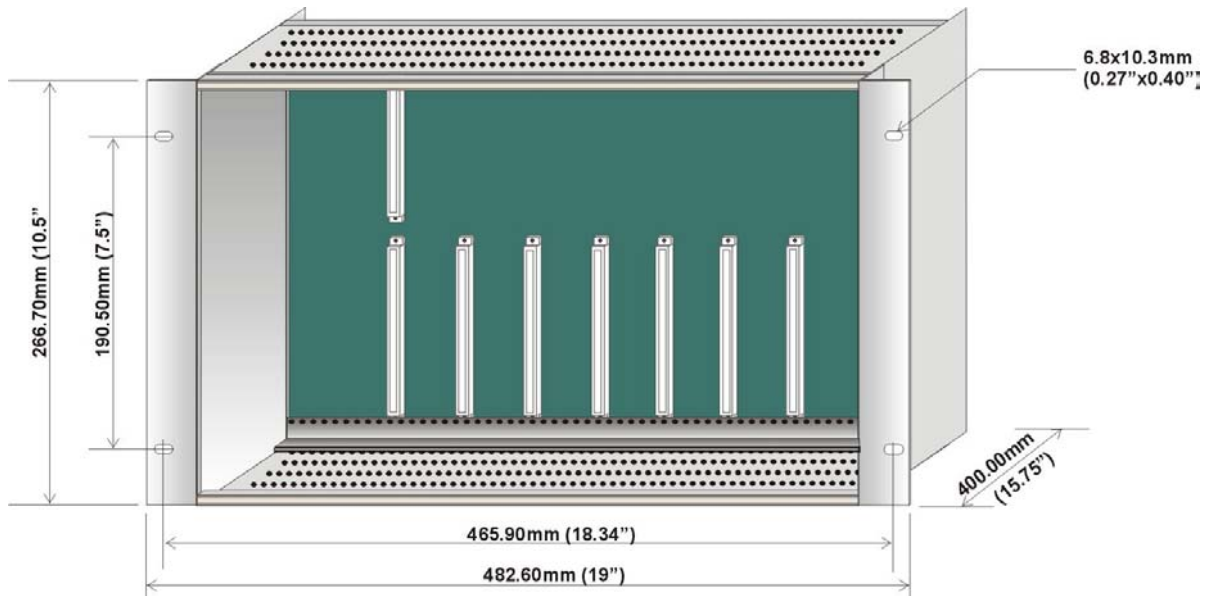
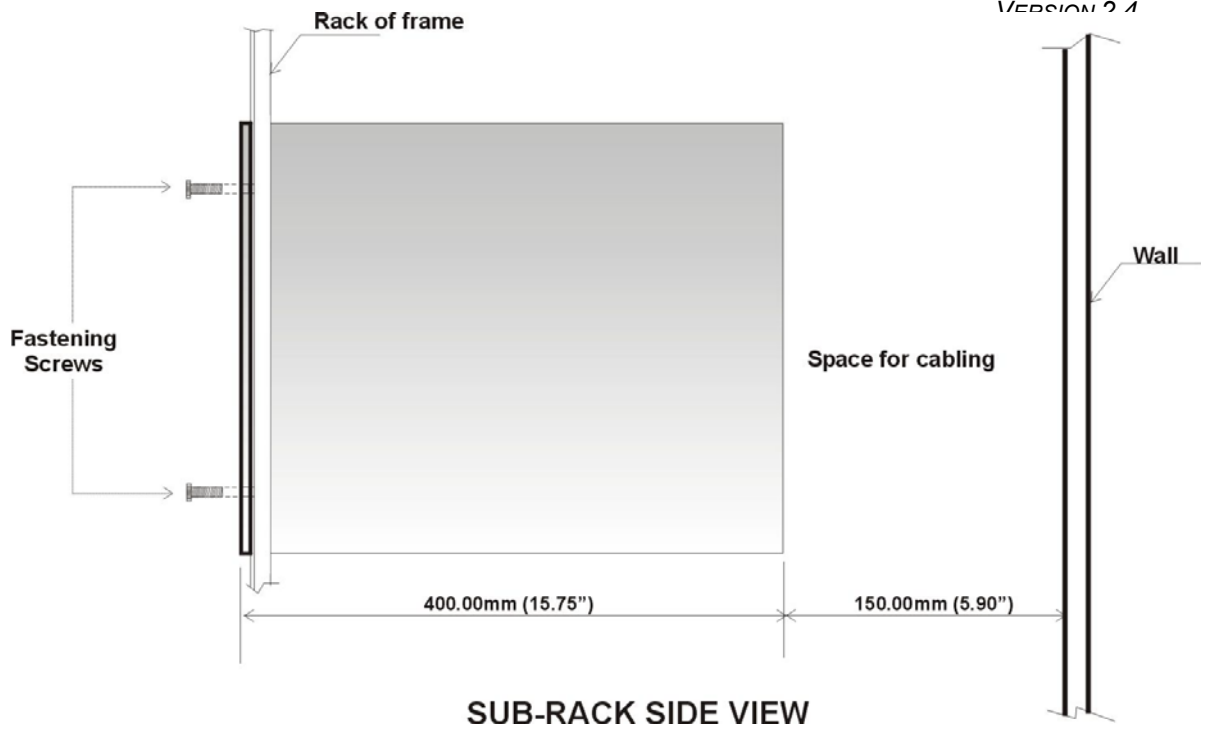

Figure 4. Sub-Rack dimensions.
Figure 5. Sub-Rack cabling's space requirements.
- e. Before mounting the NTTU in the rack, take into consideration that the depth of the NTTU is 400.00mm (14.75") (See *Figure 4*) so it is important to leave a space wide enough to accommodate the equipment cabling (150mm to 200mm (5.9" to 7.9")) in the rear part. See *Figure 5*.